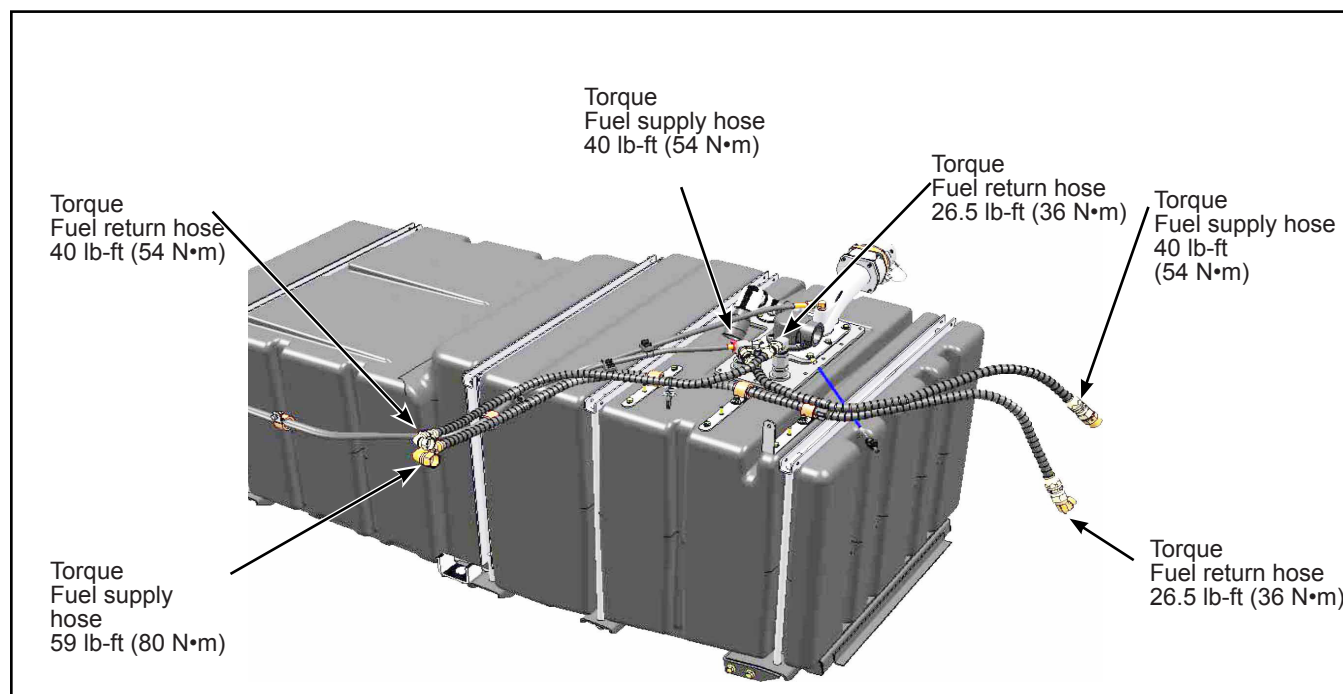

Figure 20 - Fuel Hose Torques
1.33. Install and tighten the fuel hoses to the torques specified in Figure 20.